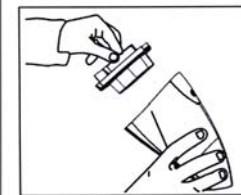

Fig. 12
4. Empty the dust from the dust cup container. (Fig. 12)